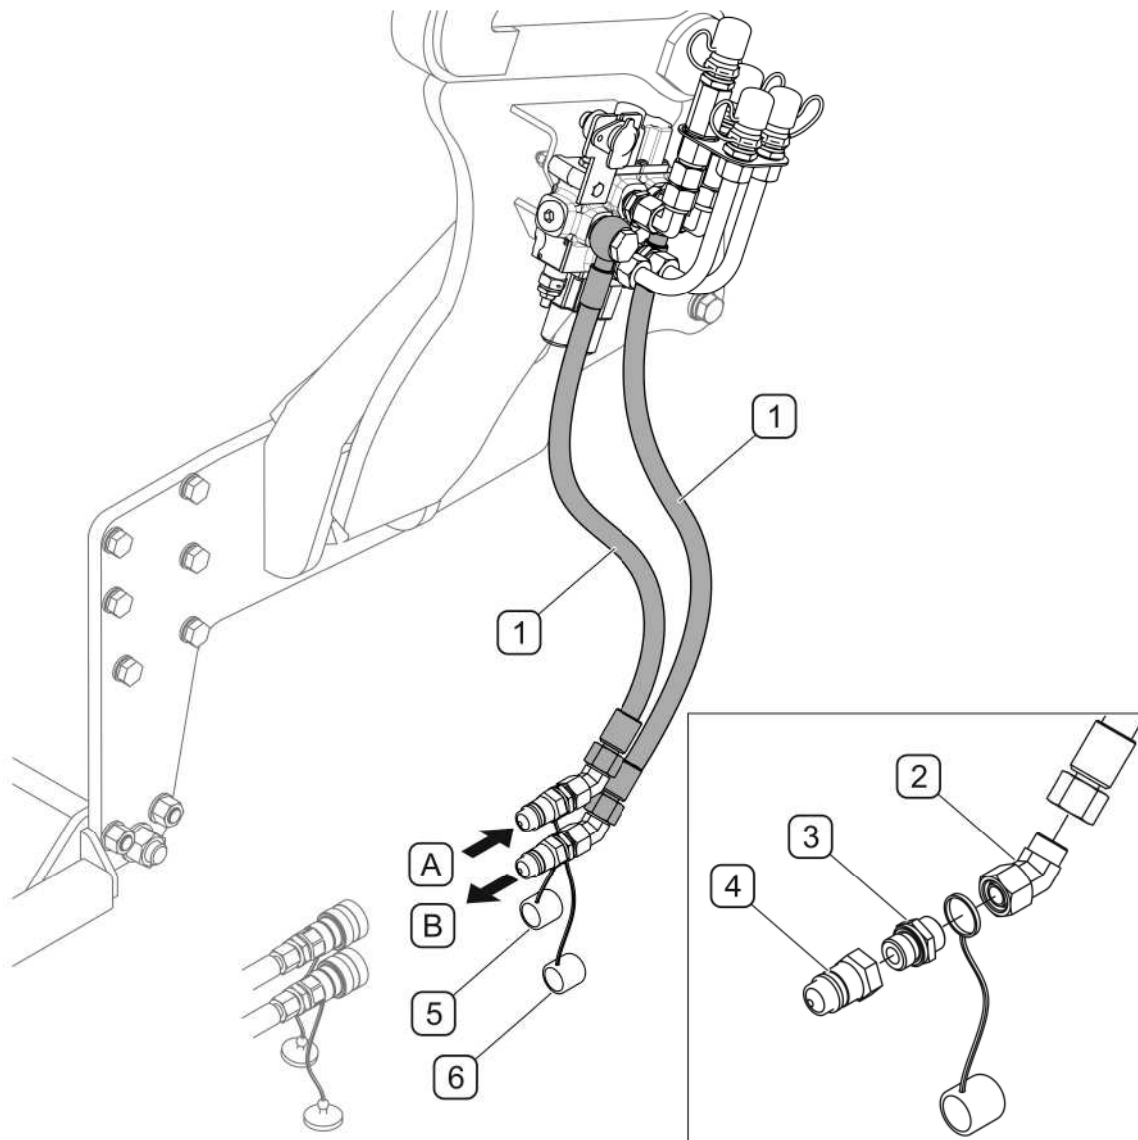

FIG. 4.9A Connect the selective control valve to the Zefir 40/40K tractor hydraulic system
(1) - hydraulic lines 181N-01020300, (2) - Adjustable elbow EV15LOMDCF;
(3) - GE15LREDOMDCF connector body; (4) - quick plug NV 12 GAS M; (5) - black cap TF 12N; (6) - red cap TF 12R
In the Zefir 40/40K tractors connect the selective control valve (FIG. 4.9A) using flexible lines (1) with the front right pair of tractor hydraulic quick couplers.